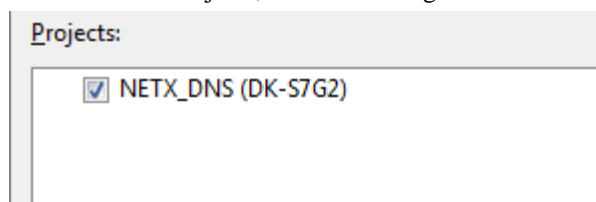

Figure 2.8 Import Existing Project dialog 2
12. Select the Project to import from the list of Projects, as shown in Figure 2.8.